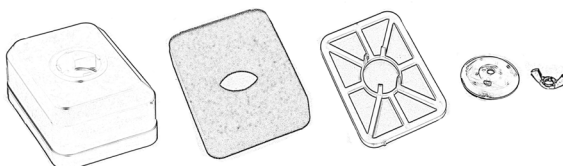

Figure 25
- Carefully wring out the filter and allow it to dry. Fig. 25.